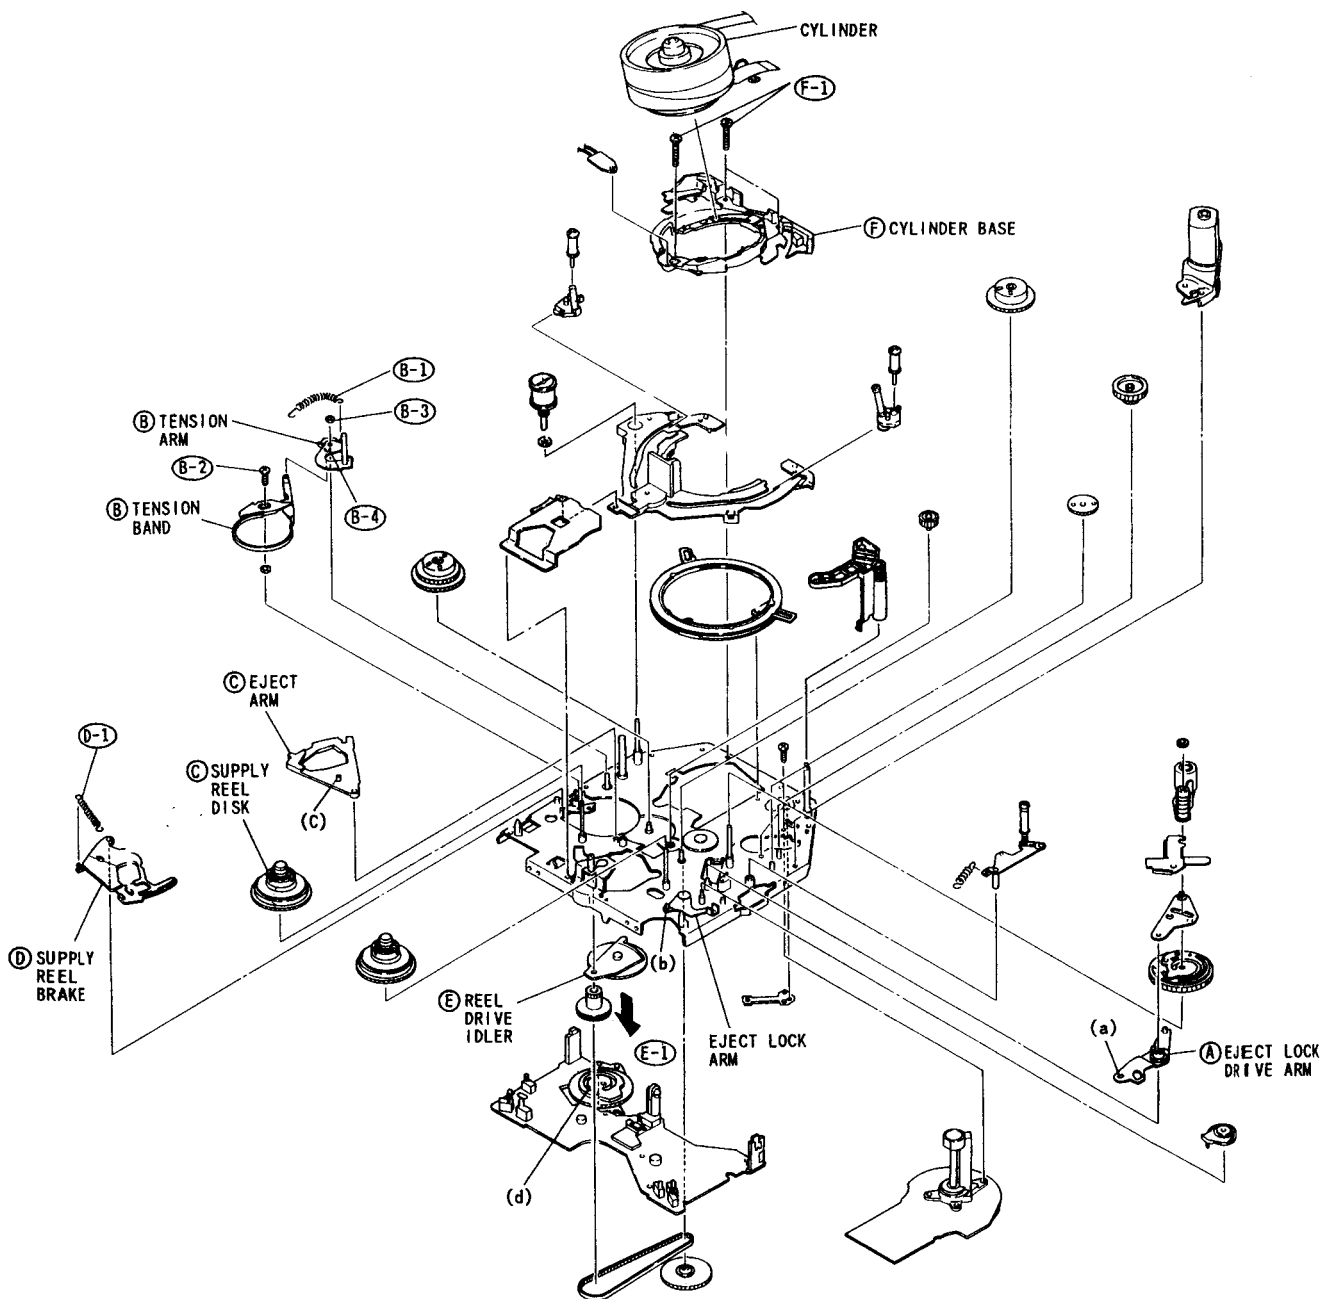

Fig. 4-6
A. Eject Lock Drive Arm (Fig. 4-6)
- 1) Remove the eject lock drive arm from the eject lock arm. (See Fig. 4-6)
B. Tension Arm and Tension Band (Fig. 4-6)
C. Supply Reel Disk and Eject Arm (Fig. 4-6)
D. Supply Reel Brake (Fig. 4-6)
E. Reel Drive Idler (Fig. 4-6)
F. Cylinder Base (Fig. 4-6)